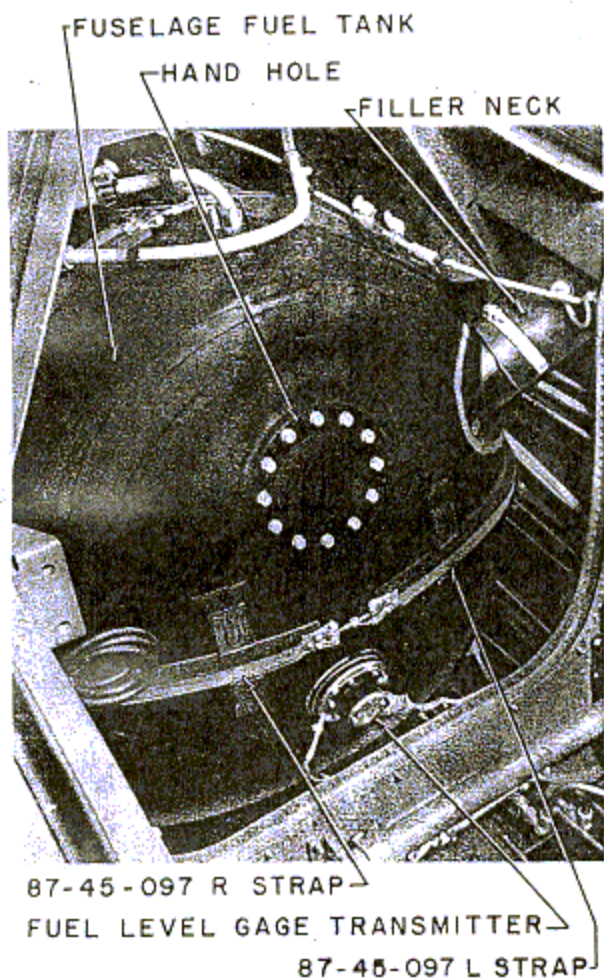

Figure 204—Fuselage Fuel Tank Installation
11. Cut the lock wires and disconnect the turnbuckles on the forward tie-down and retaining straps. (See figure 204.)